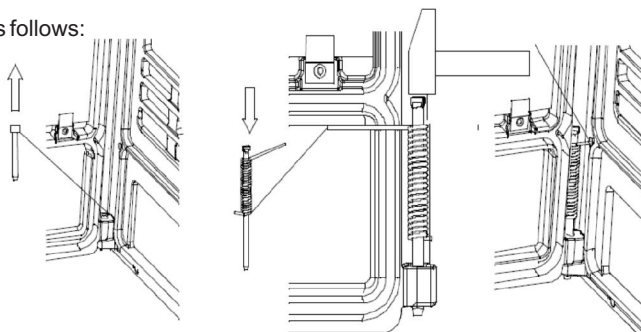

Figure 1
- Open the door, remove the bolt from the lower hinge, remove the door and insert the pin with the spring in prestressed position (see Figure 1). Reinsert the door on the upper bolt, insert the longer end of the spring into the hole on the front frame and install the pin in the lower eye on the front frame (103).